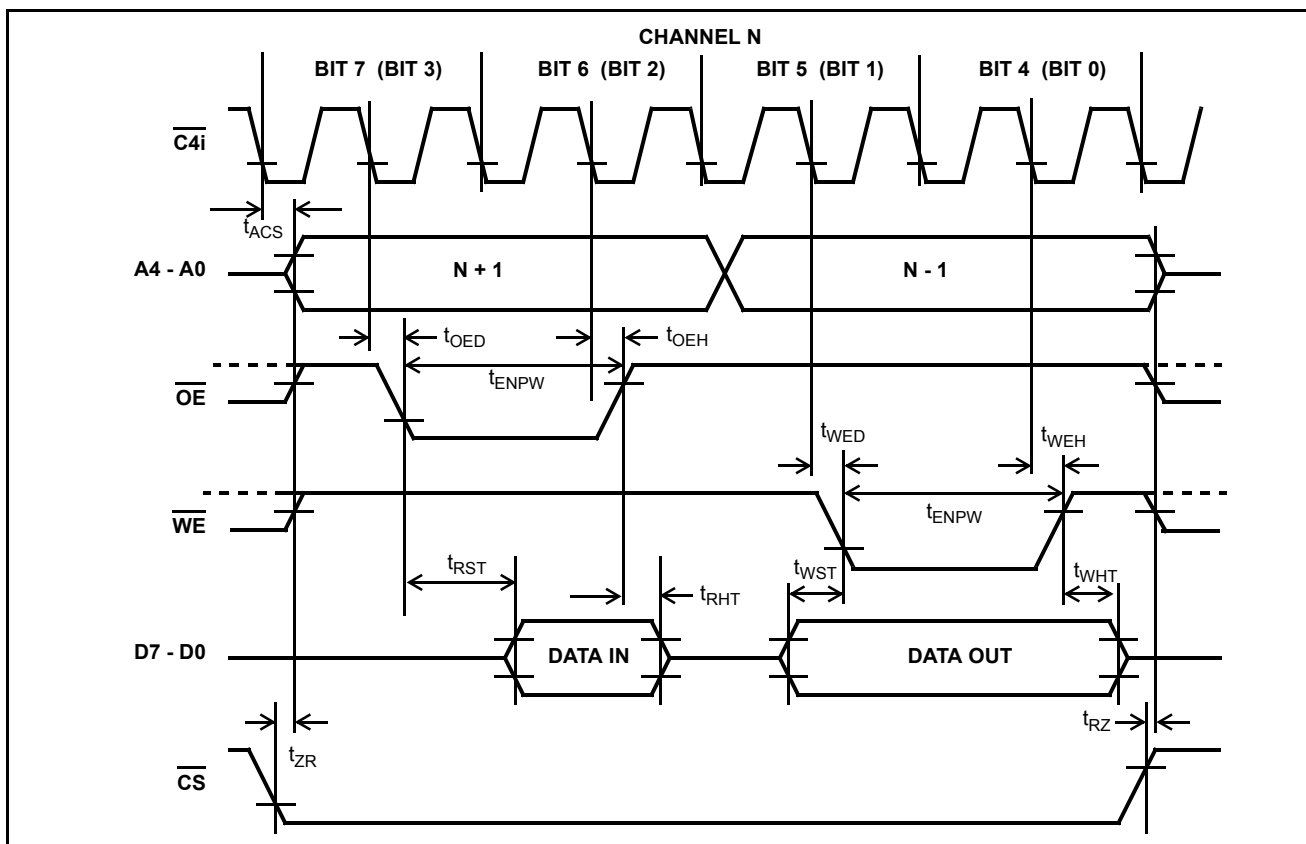

Figure 17 - Mode 3 Timing Diagram
**AC Electrical Characteristics† - Mode 3 Timing (see Fig.17, 18 and 19)** $(V_{CC}=5.0V \pm 5\%, T_A=-40 \text{ to } 85^\circ\text{C})$